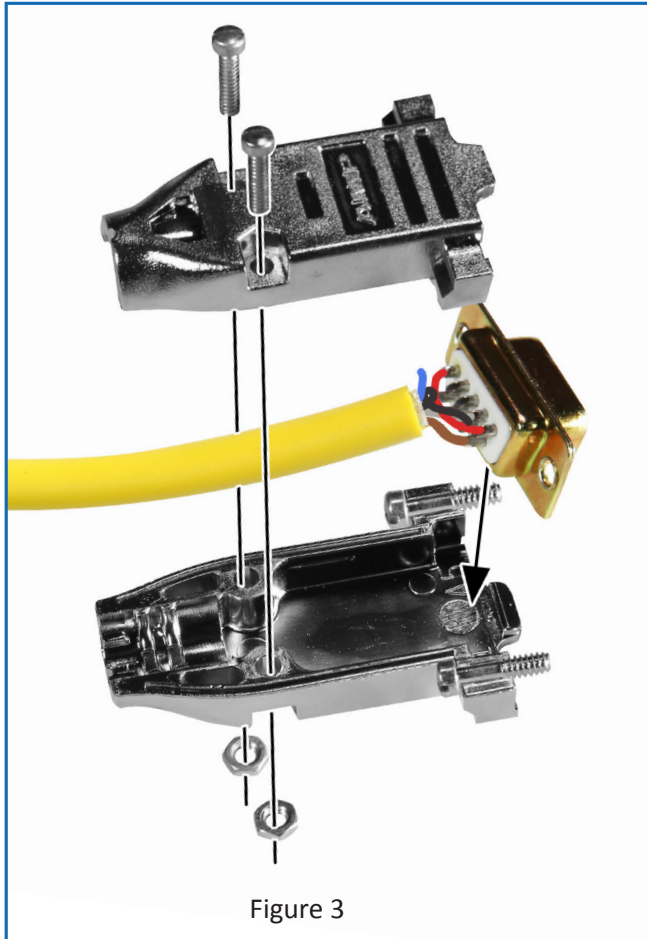

Figure 3
Step 3. Assemble the 9 Pin connector and connect to the instrument, as illustrated in Figure 3.